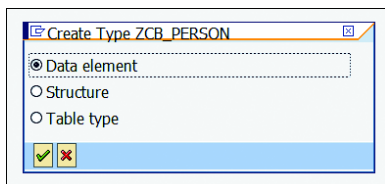

Figure 4.9 Create Type
3. The system presents a dialog box (see Figure 4.9) asking you to select the data type you want to create. DATA ELEMENT represents the user-defined elementary data type, so select the DATA ELEMENT radio button and click CONTINUE (green checkmark). (We'll have an opportunity to explore structures and table types in later chapters.)